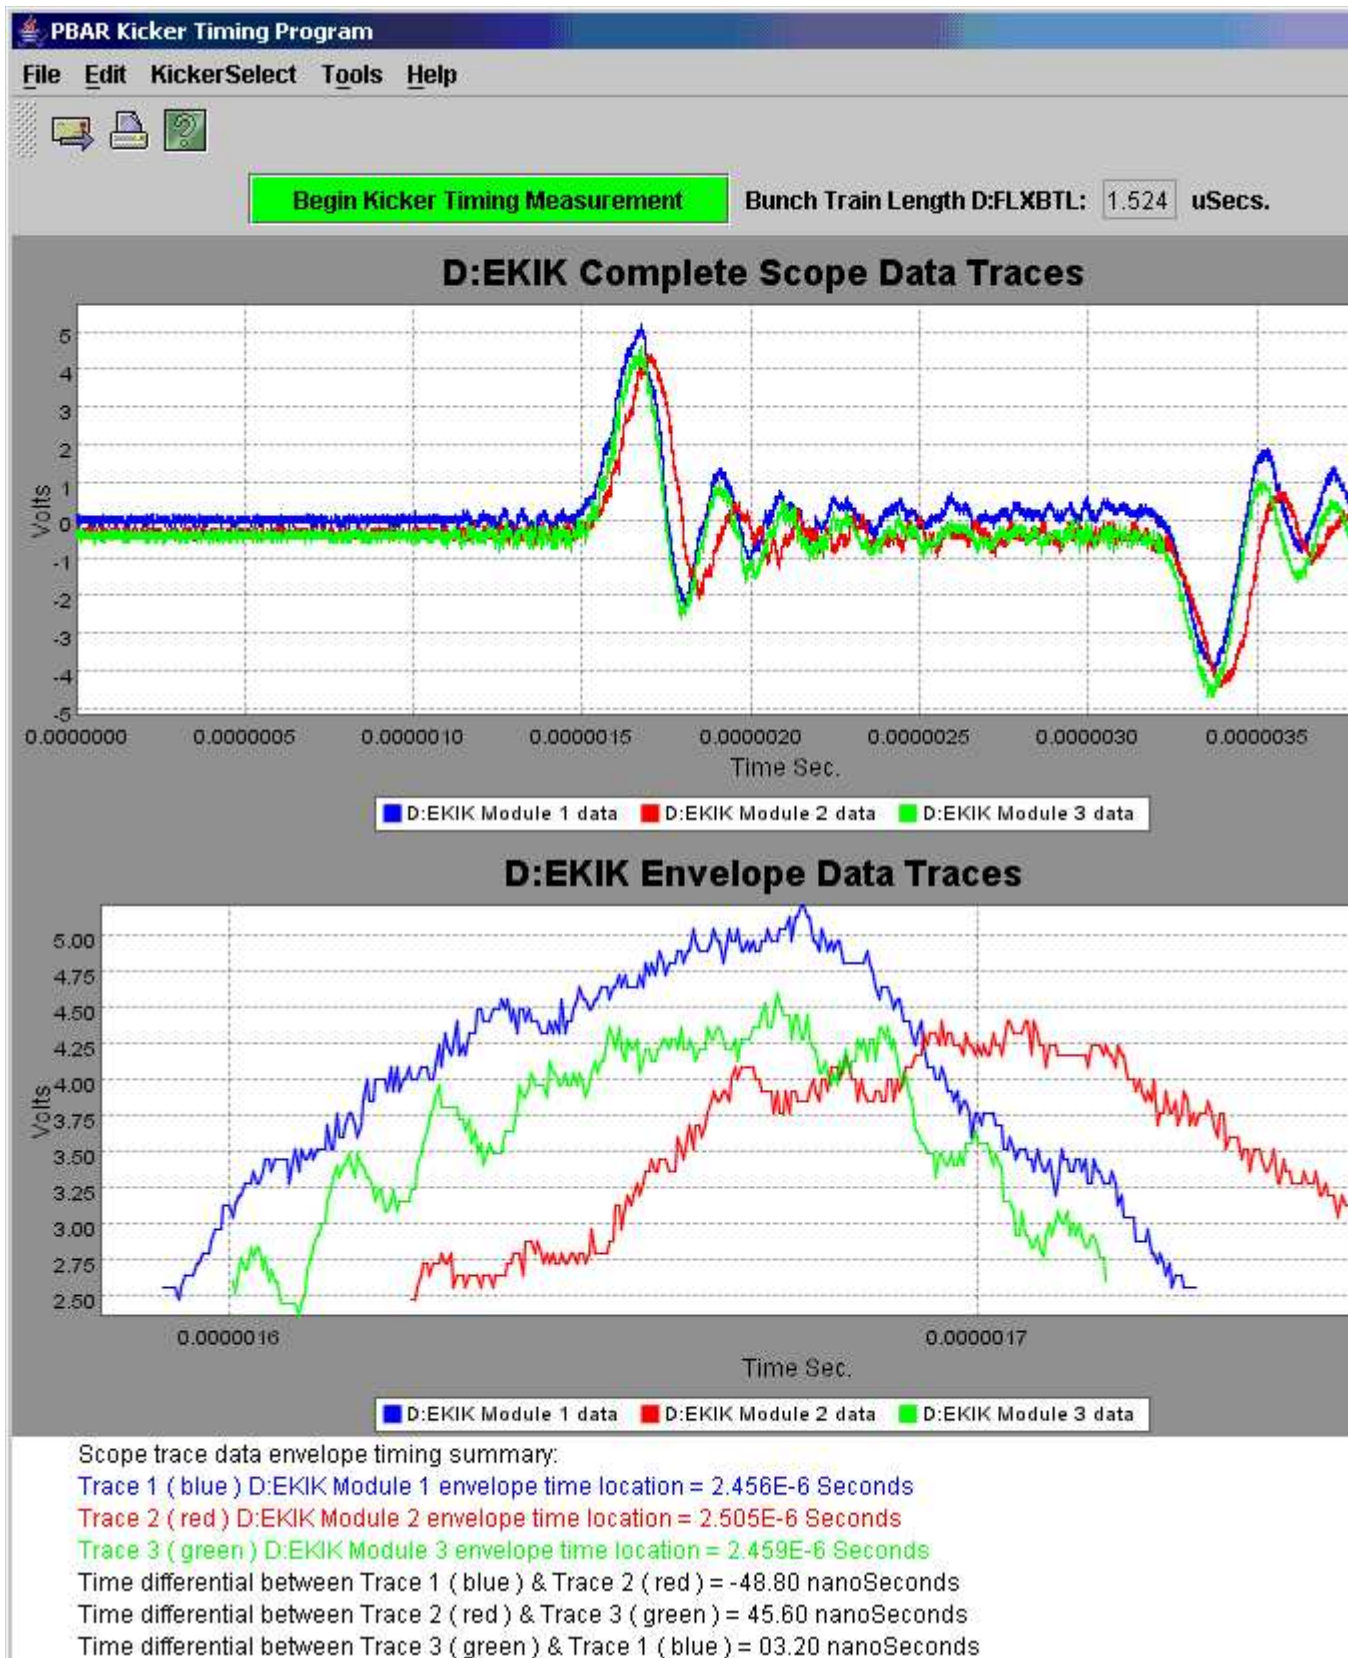

Figure 27: The Pbar Kicker Timing Program shows the Debuncher Extraction Kicker scope traces. The top plot is a reproduction of the kicker scope as
5. Click on the green box that is labeled "Begin Kicker Timing Measurement" as shown in Figure 27. D:FLXBTL is used for Debuncher injection and can be ignored in this portion of the procedure.
Figure 27, it is clear that the three traces are closer to being aligned after the tuning was completed.